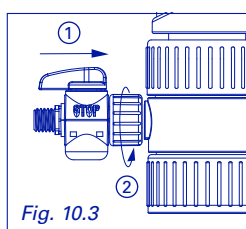

Fig. 10.3
- ② Mount stopcock on dispenser (Fig. 10.3)
- ② Sperrhahn montieren (Abb. 10.3)
- ② Monter le robinet (Fig. 10.3)